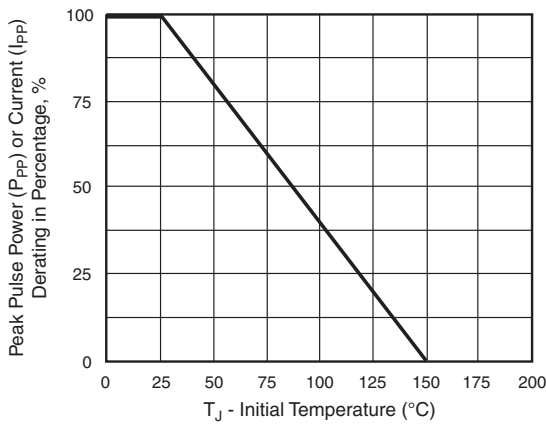
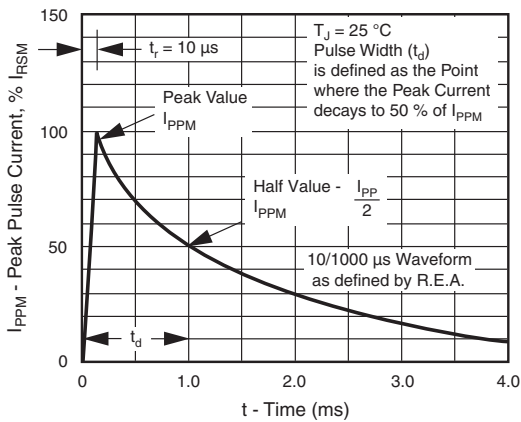

Fig. 2 - Pulse Power or Current vs. Initial Junction Temperature
Fig. 3 - Pulse Waveform
(1) Non-repetitive current pulse, per fig. 3 and derated above  $T_A = 25$  °C per fig. 2.